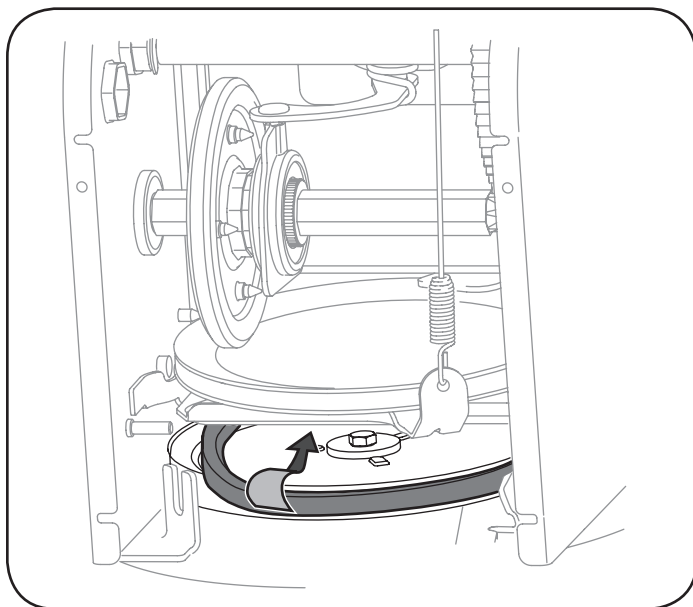

Figure 28
6. Loosen and remove the shoulder screw which acts as a belt keeper. Refer to Figure 28.